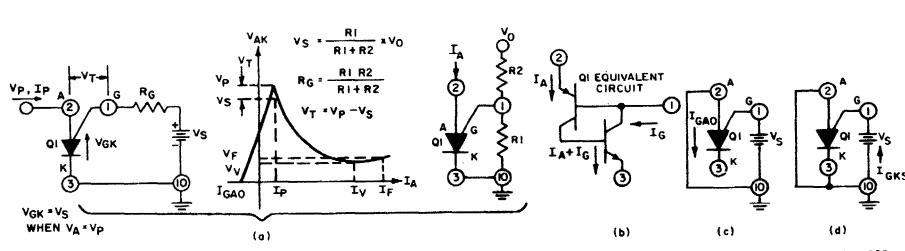

Fig. 22 – General anode characteristics for Q1 (PUT).
* $V_T = V_p - V_S$ (Fig. 22)
The programmable unijunction transistor is essentially an anode-gate SCR. The volt-ampere characteristic of the device is shown in Fig. 22. When an equivalent Thevenin source (V_S , R_G), as shown in Fig. 22, is applied to the gate terminal of the device will be "off" if the anode-voltage is negative with respect to the gate voltage. Under this condition, any current flow is exclusively leakage current. When the anode voltage becomes more positive than the gate voltage by an increment equal to the threshold voltage ($V_T = 0.4$ V typ.), the device can turn "on" only if the current available at the anode terminal is greater than the specified peak-point current. The PUT will then switch through its negative-resistance region to the "on" state (low anode-to-gate voltage). It should be noted